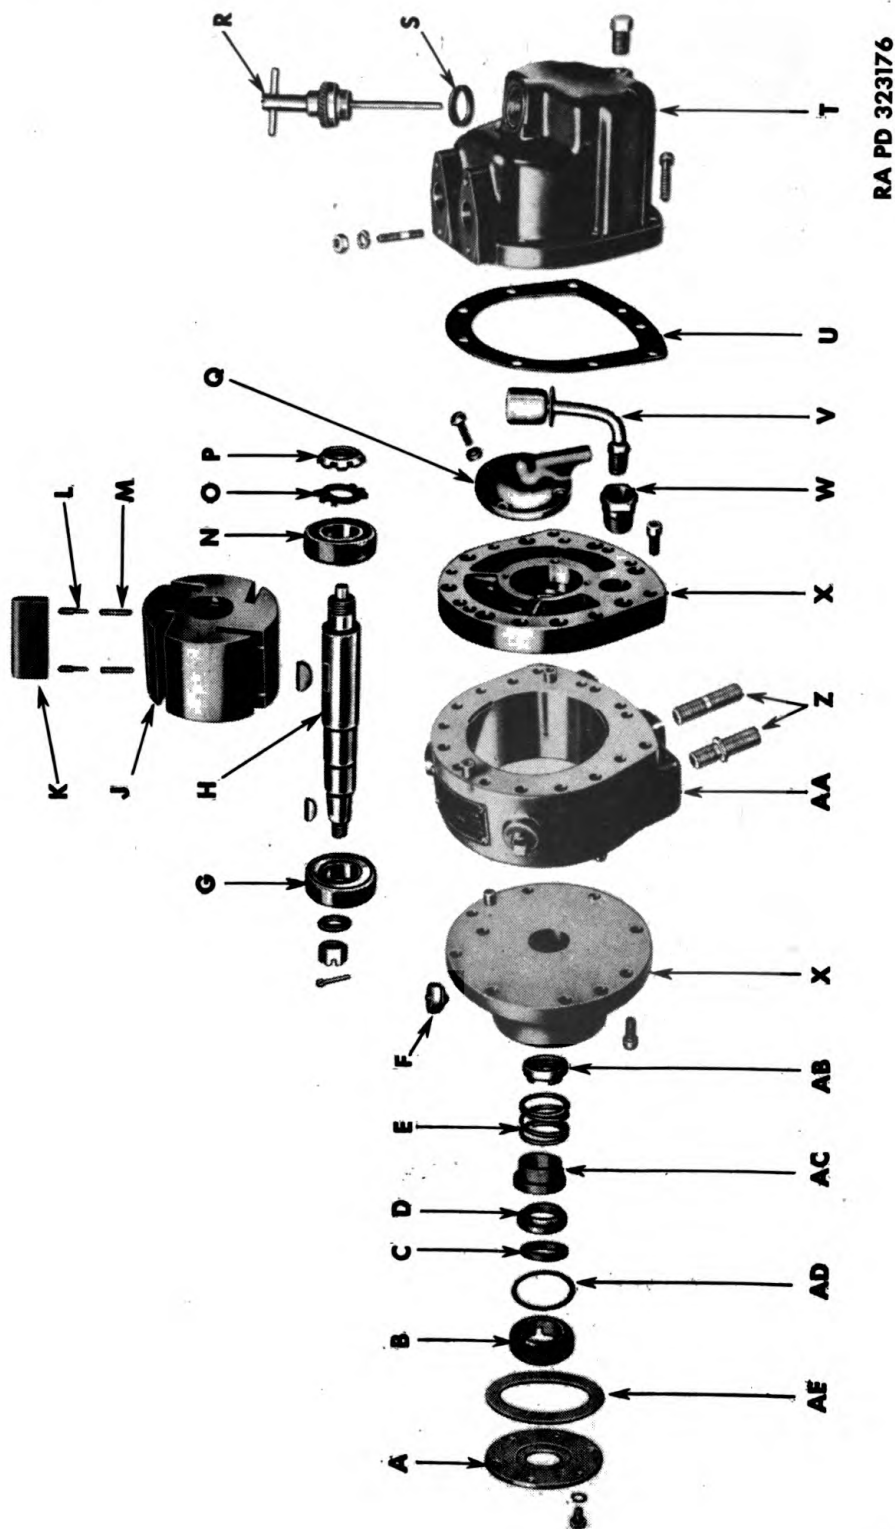

Figure 180 — Air Compressor Disassembled
Legend for Figure 180
a. Compressor (fig. 180).